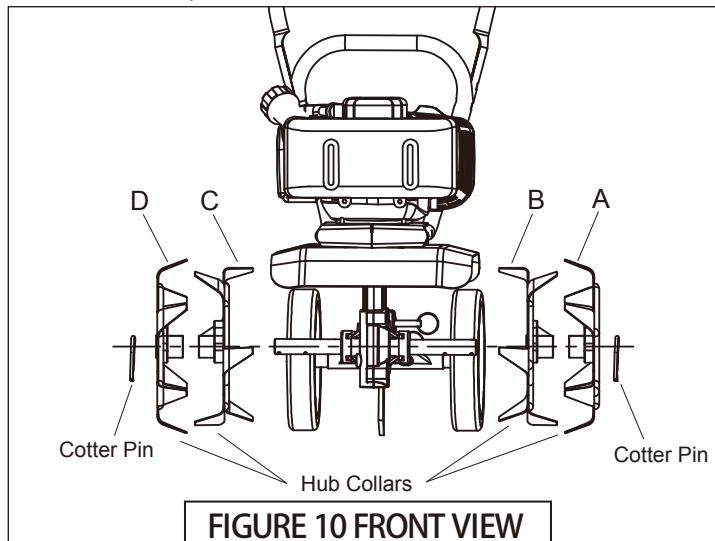

FIGURE 3
3. Once you have released the cover, rotate the cover away from the engine (See Fig 3)
4. Make sure the hub collars on both the right and left pair of tines face each other so that there is adequate spacing between the tine blades (See Fig 3)